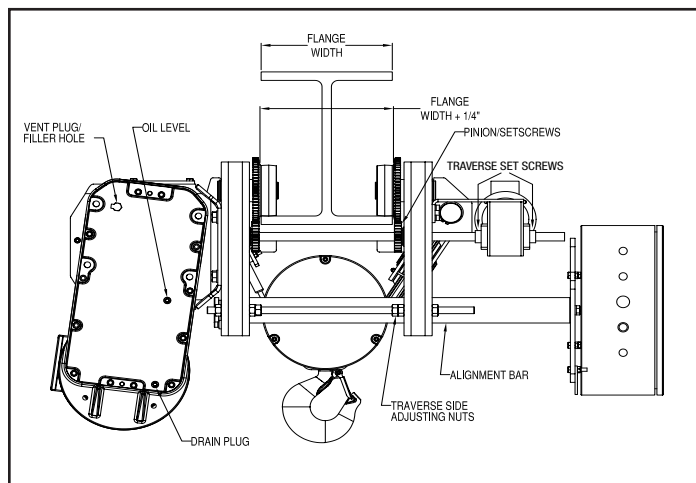

Figure 2-1. Trolley Wheel Spacing ("B" & "C" Frame Shown)
If the trolley can be installed directly from the end of the supporting beam, adjust the spacing between the trolley wheel flanges to be 3/16"-1/4" greater than the exact width of the beam flange (See Figure 2-1). Before adjusting the width of the trolley frame, make sure to loosen the pinion set screws nearest the traverse drive on the keyed cross shaft and those on the traverse reducer. Do not lose the keys for the pinion and reducer during adjustment. Also, the electrical conduit/cable must not be constrained when attempting to adjust the trolley sides, in or out. The trolley width is adjusted by loosening the jam nuts on the traverse drive side of the threaded rods at each end of the hoist. If necessary, lubricate the frame alignment bars with penetrating oil before attempting to adjust trolley width. The trolley side may then be pushed or driven into position by turning the adjusting nuts on the threaded rods. Adjust nuts on each side of the hoist simultaneously, to avoid binding. After adjusting the trolley to the proper width, tighten all adjusting nuts and setscrews, and re-secure the electrical conduit/cable. Verify that the geared wheels mesh properly with the traverse drive pinions. Using proper equipment, carefully lift the hoist and install on the end of the beam. Lubricate the wheel gear and pinion (WG, Section IV, Paragraph 4-5).
For trolleys which are to be mounted along the span of a beam not having open ends, the trolley must be adjusted in the same manner as described above to a width that allows clearance between the axle ends and the beam flange. Using proper lifting equipment, the trolley and hoist must then be lifted to the beam where it is to be installed. Once in position, adjust the spacing between the trolley wheel flanges to be 3/16"-1/4" greater than the exact width of the beam flange (See Figure 2-1). After tightening all adjusting bolts, set screws, and all electrical conduit/cable clamps, carefully set the trolley on the beam. Lubricate the wheel gear and pinion (WG, Section IV, Paragraph 4-5).
- a) Check Oil Level. (Figure 2-1) The gearcase has been filled with oil to the proper level. However, this should be rechecked before operating the hoist.
Check oil level by removing the Oil Level Plug indicated in Figure 2-1. When properly filled, oil should be level with the bottom of the tapped hole. Fill to this level with oil as specified in Paragraph 4-2.e.